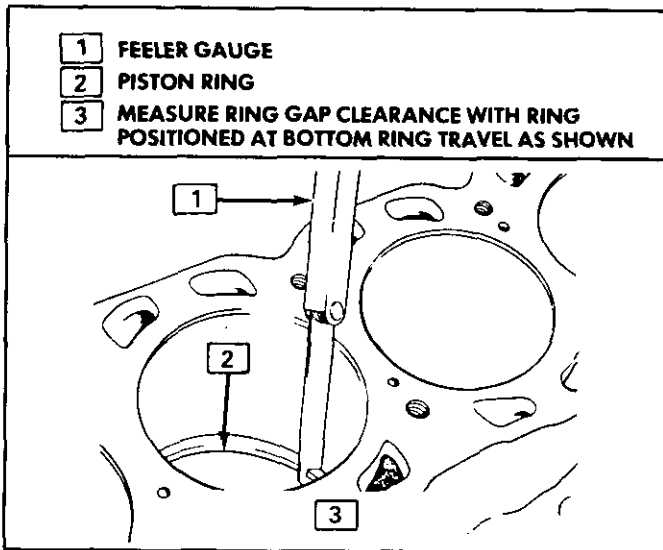

Figure 35 Measuring Piston Ring Gap
2. Piston ring end gap (Figure 35)
- Measure the ring gap (Figure 35). If the gap is below specification (Figure 37), increase the gap by carefully filing off excess material.